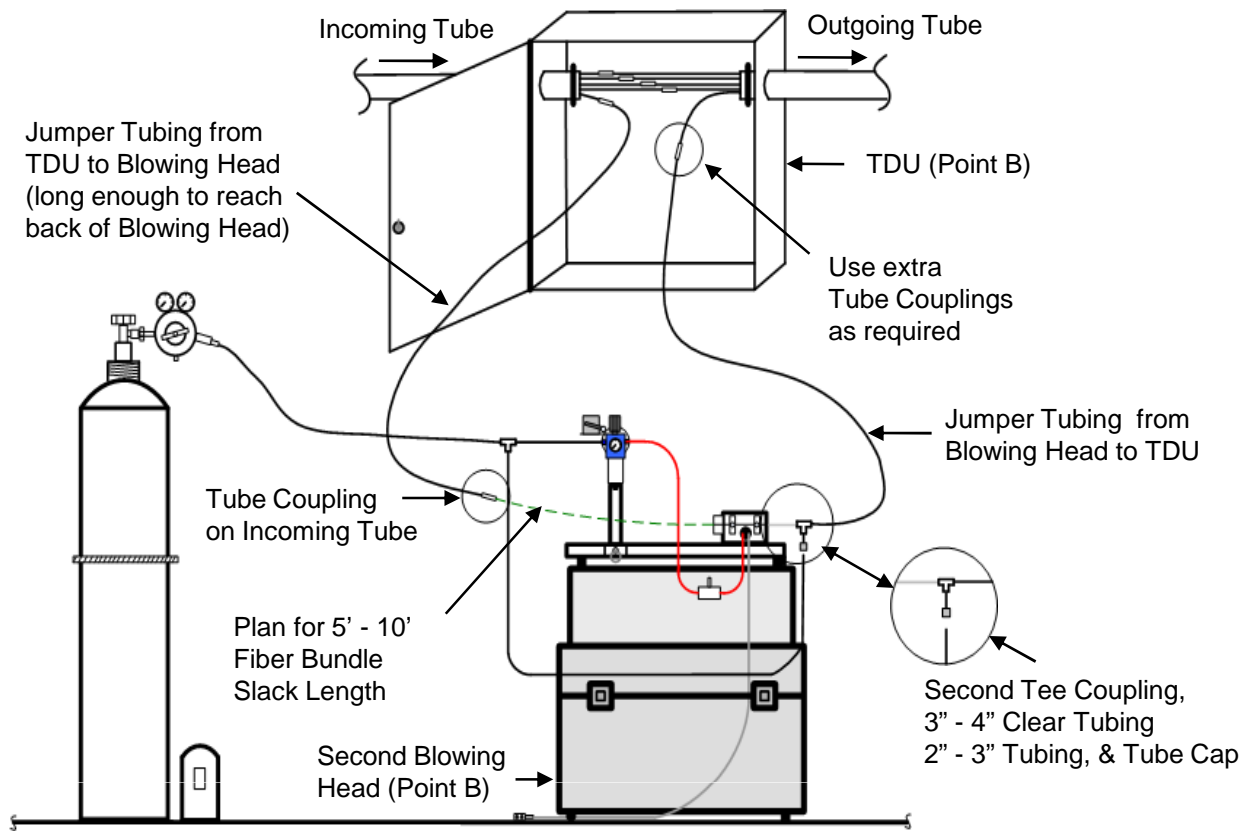

Figure 4
6.5 At Point B, set up Blowing Head #2 in accordance with Sumitomo Recommended Procedure SRP SP-F04-001 with the following exceptions. **See Fig. 4.**
6.6 At Point B TDU, uncouple tube span and perform following steps. **Refer to Fig. 4.**
7.6 When a 5' - 10' slack loop length of fiber bundle is available at Point B TDU, Blowing Head #2 Operator instructs Blowing Head #1 Operator to close Motor Rate Control Valve and stop fiber bundle movement. **Refer Fig. 4.**